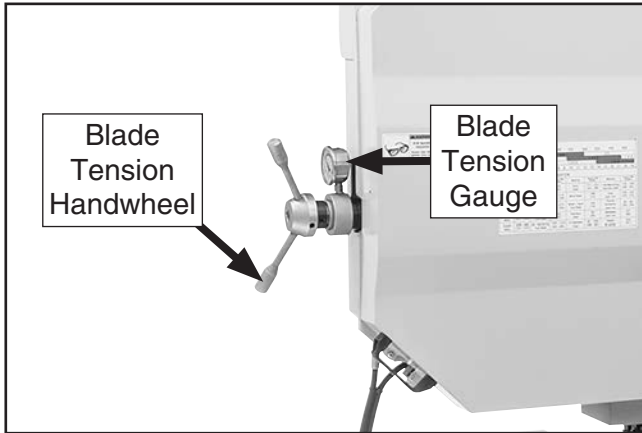

Figure 37. Blade tension handwheel and gauge location.
6. Turn blade tension handwheel (see **Figure 37**) clockwise to tighten blade or counterclockwise to loosen blade.